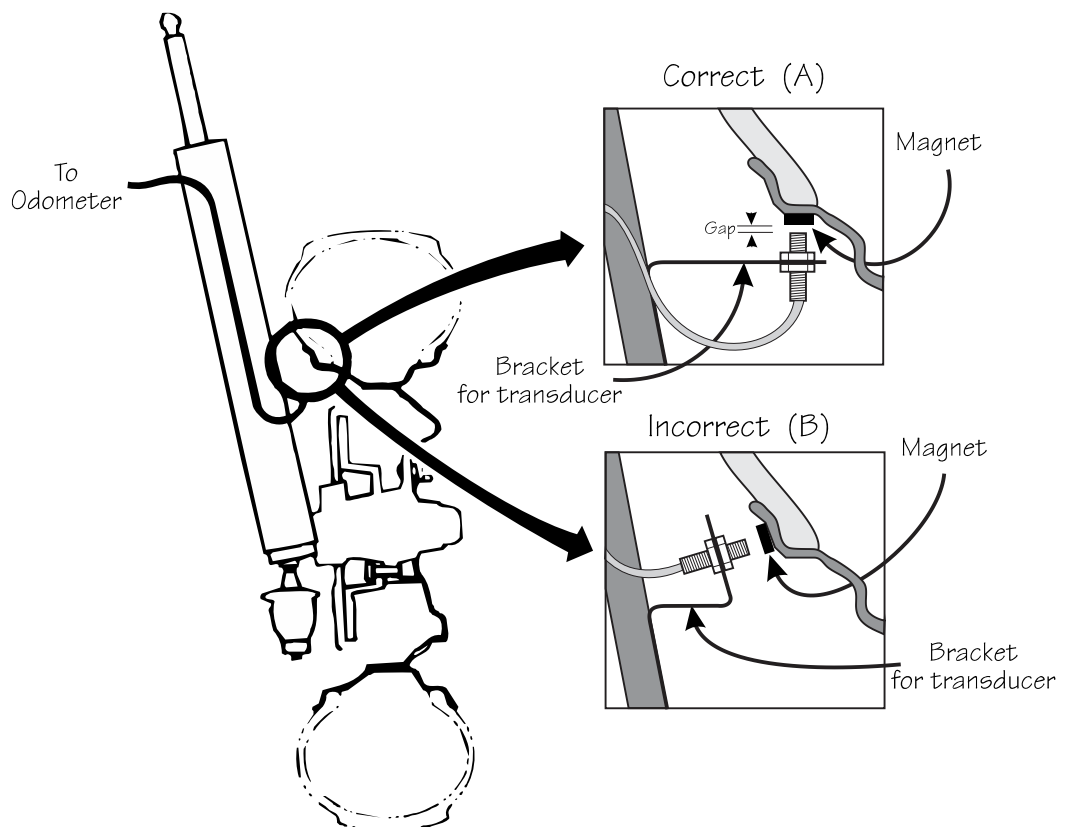

Figure 13-6: Proper wheel installation of an open sending unit
Rim-mounted magnets deserve some special considerations. Aside from the problems of flat tires, flying magnets, and buildups of snow, mud, and ice, you must consider wheel flex. Some rallyists mount the magnet and transducer as shown in the lower enlargement (B) of Figure 13-6. This will fail under hard cornering since the rim itself actually flexes.